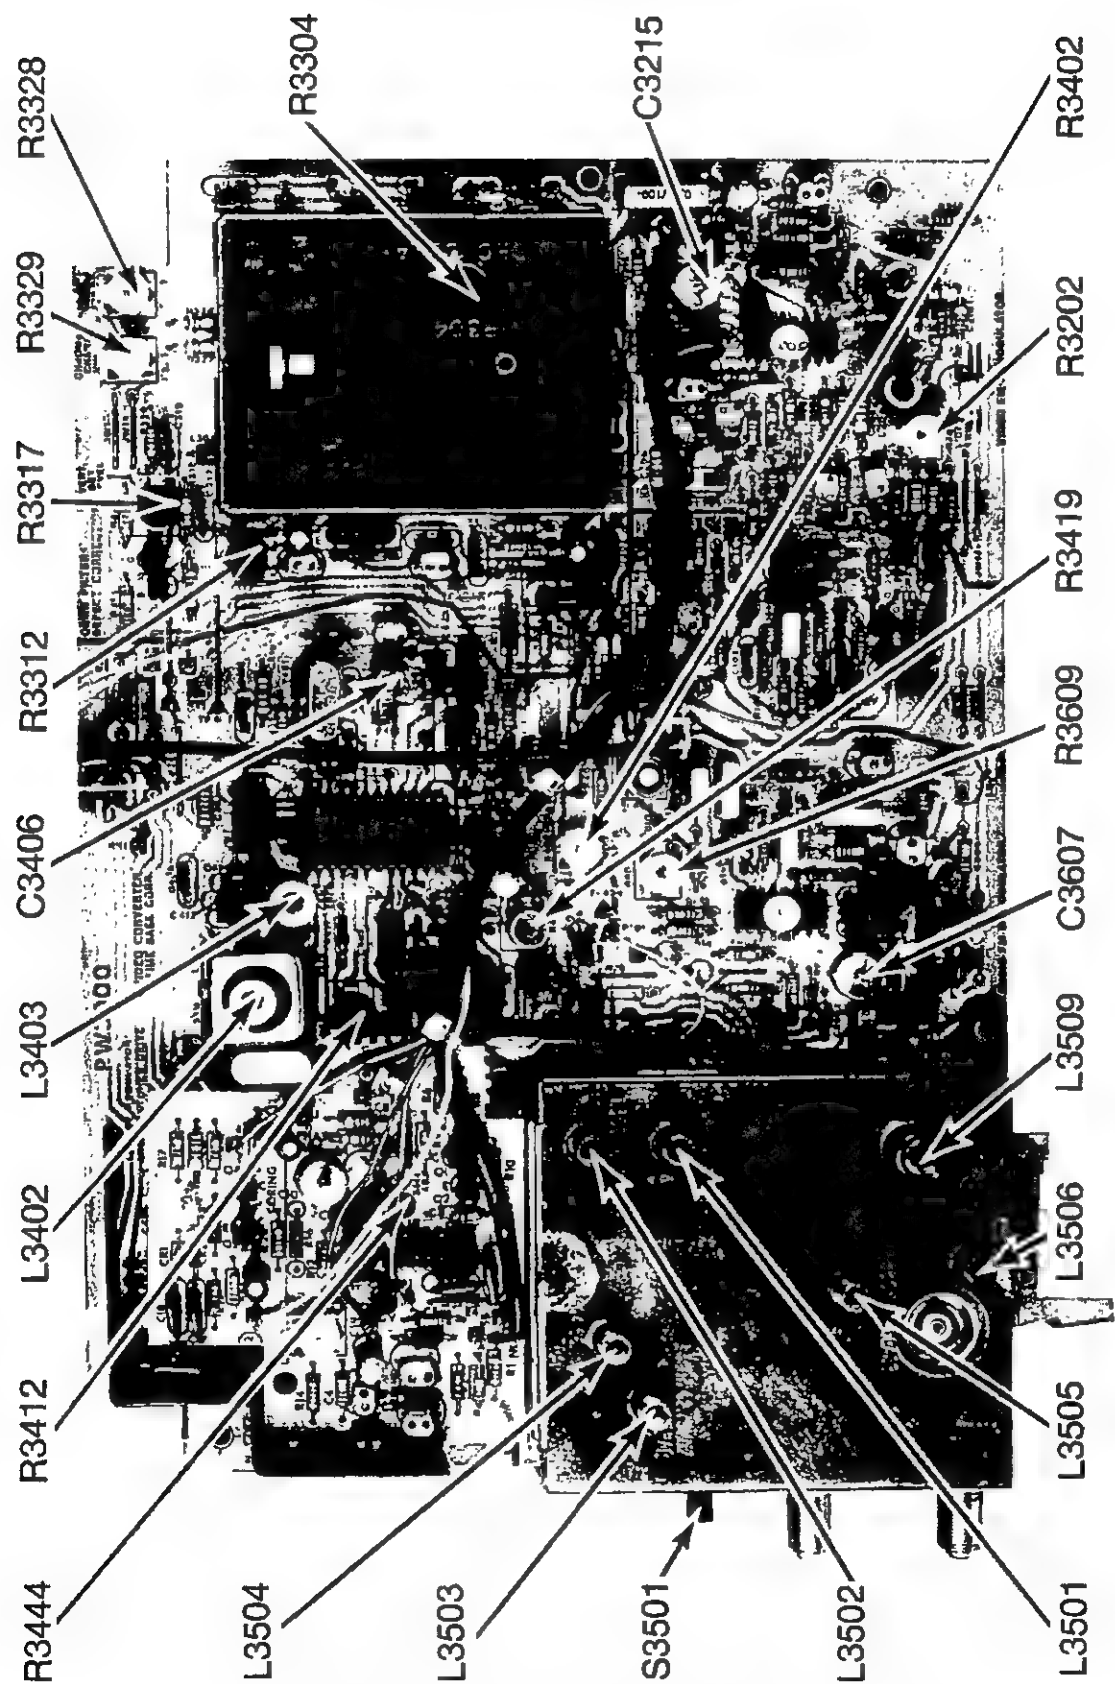

Fig. 4-9. — PW 3000 Circuit Board Electrical Adjustments
2. Connect oscilloscope to TP 3401 (Figs. 4-9 & 5-2).
2. Connect oscilloscope to TP 3302 (Figs. 4-9 & 5-2).
2. Connect oscilloscope to TP 3303 (Figs. 4-9 & 5-2).
2. Connect oscilloscope to TP 3409 (Figs. 4-9 & 5-2).
2. Connect Disc player to TV set. Locate defect (Line No. 130) by rotating R3304 to one end of rotation (Figs. 4-9 & 5-2).
3. Connect a 7500 ohm resistor between TP 3405 and TP 3411 (Figs. 4-9 & 5-2).
1. With power applied to player, place Channel Switch, S3501, in Channel 3 position (Figs. 4-9 & 5-2). Connect player to TV or 75 ohm load.
9. Adjust L3504 (Fig. 4-9) for null (minimum deflection).
11. Adjust L3503 (Fig. 4-9) for null (minimum deflection).
14. Set marker generator to 65.75 MHz and adjust L3505 (Fig. 4-9) for peak output (maximum deflection).
15. Set marker generator to 61.25 MHz and adjust L3506 (Fig. 4-9) for peak output (maximum deflection).
3. Adjust L3509 (Fig. 4-9) for 4.5 MHz  $\pm 1$  kHz.
3. Adjust C3406 (Fig. 4-9) for  $3.579545 \pm 10\text{Hz}$ .
2. With player in load mode adjust C3406 (Fig. 4-9) for 3.579485 MHz.
3. Adjust R3402 (Fig. 4-9) Clockwise till a buzz is heard in TV audio, then turn R3402 counterclockwise to just eliminate the buzz.